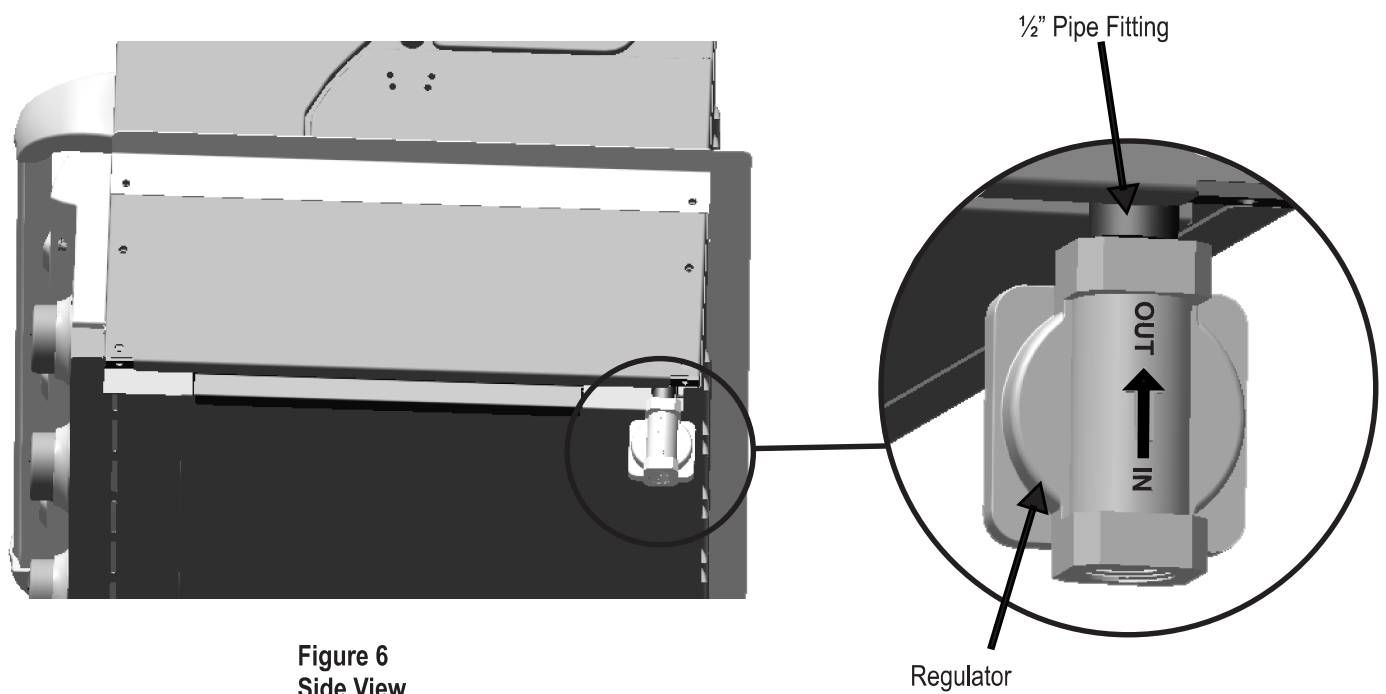

Figure 6
4. Connect the natural gas appliance regulator (provided) to the ½" pipe fitting connection taking care to connect the outlet side of the regulator to the pipe fitting connection (see Figure 6). The inlet and outlet sides of the regulator are noted by markings on the rear of the regulator body.